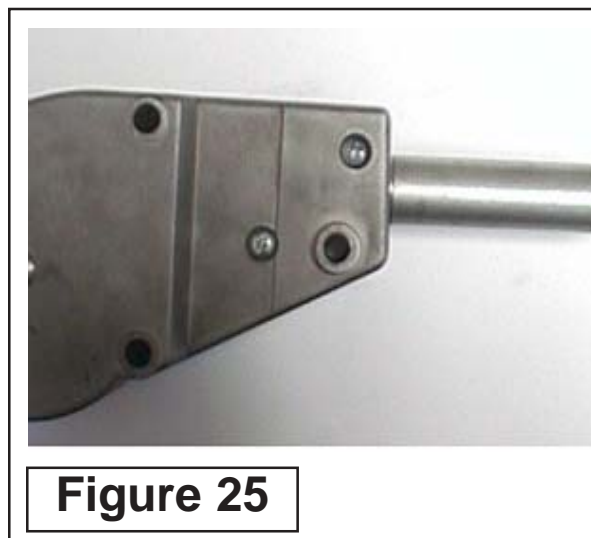

Figure 25
9. Check the operation of the spool, cable and controller. Some adjustment at the valve end may be required too ensure that the spool returns to neutral when the controller is in the neutral position. (See Figure 25)